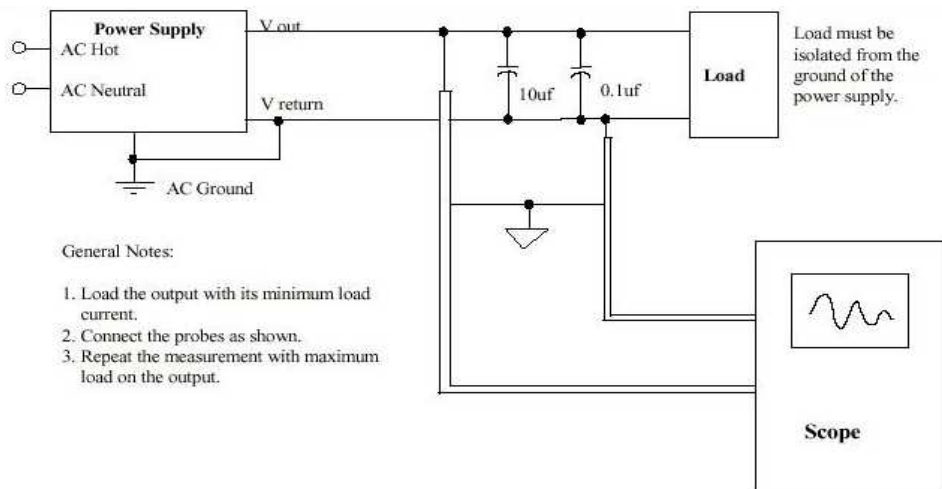

Figure 2.4 Differential Noise Test Setup
2. Add a 0.1 μ F capacitor in parallel with a 10 μ F tantalum capacitor at output connector terminals for ripple & noise measurements, See Figure 2.4.